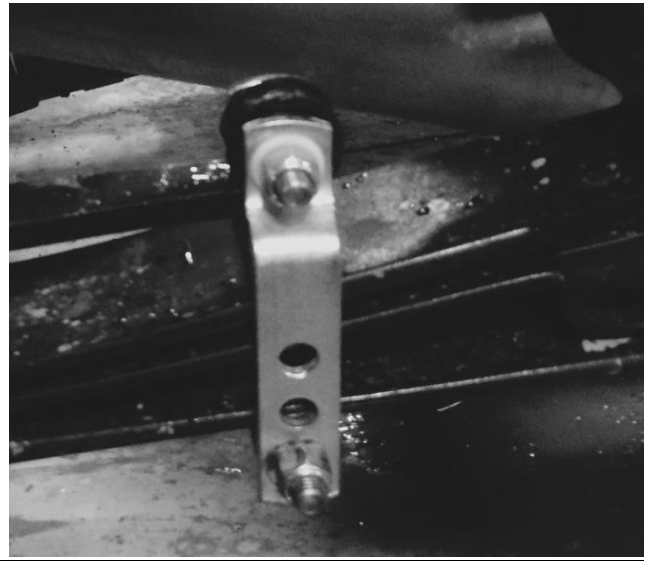

Fig. 4
**Step 6: Attach rear shackle (Fig. 4)**